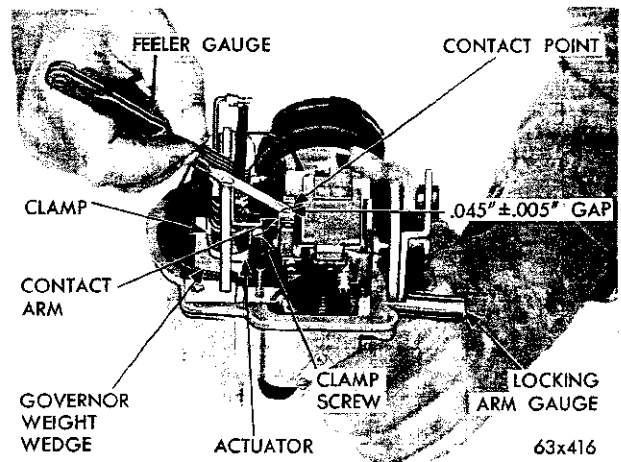

Fig. 31—Contact Point Adjustment (Contact Arm Centered)
(3) Insert the locking arm gauge Tool C-3844 over the stop stud. With a screw driver, move the magnet assembly to the low throttle position (against the locking arm). Turn the governor weights until they are parallel with the drive screw, then place the governor weight wedge Tool C-3842 between the governor weights, pressing down on the wedge until the weights are held out to their stop position.
(4) Use a feeler gauge to measure the gap between the contact arm and either contact point on the magnet assembly (Fig. 31). This gap should be approximately one-half of the full gap measurement outlined in Step 2. If the gap is not within the specifications, the contact arm is not centered properly. Loosen the screw on the actuator clamp (Fig. 31). Rotate the actuator until the contact arm is centered between the two contact points on the magnet assembly. Then tighten the clamp screw and measure the gap. When making adjustment for centering the contact arm, make certain the clamp is pressed down firmly against the actuator cams, otherwise, the clamp fingers will not follow the cam when the actuator is turned.
(5) Remove the locking arm gauge and governor weight wedge.